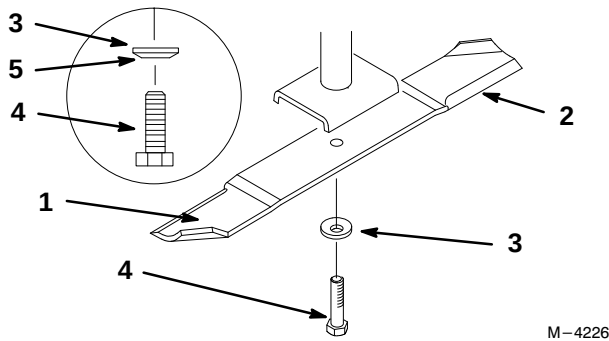

Figure 20
1. Hold the blade end using a rag or thickly-padded glove. Remove the blade bolt, spring disk and blade from the spindle shaft (Fig. 20).
1. Install the blade onto the spindle shaft (Fig. 20).
2. Install the spring disk and blade bolt. The spring disk cone must be installed toward the bolt head. (Fig. 20). Torque the blade bolt to 85–110 ft-lb (115–150 N•m).